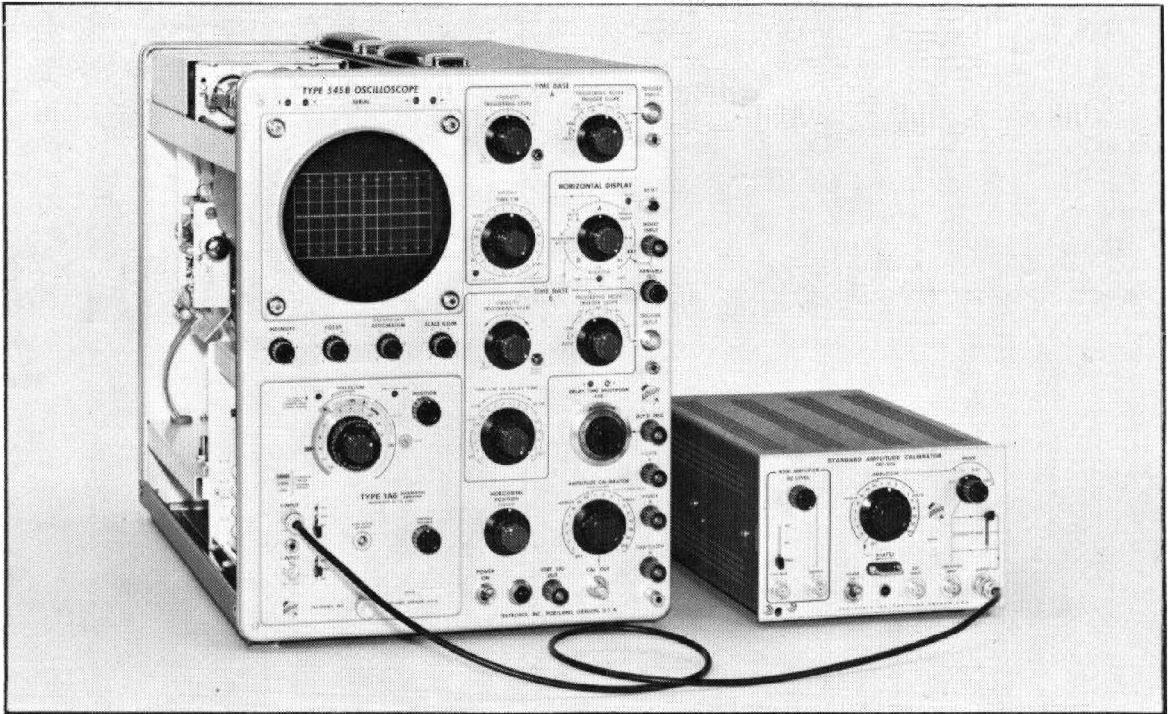

Fig. 6-5. Equipment setup for steps 5 and 6.
- a. Test equipment setup is shown in Fig. 6-5.